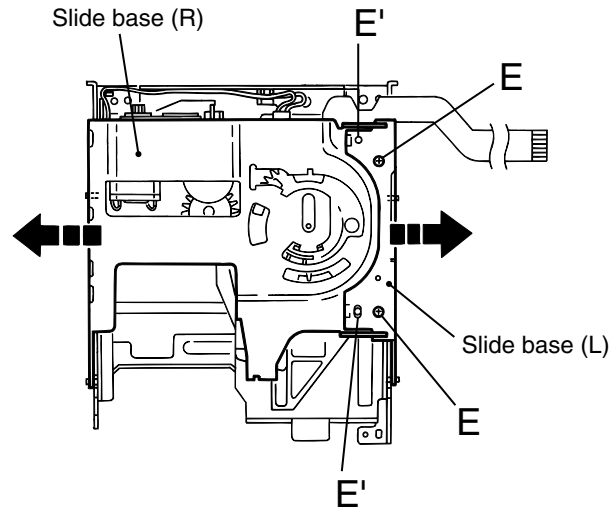

Fig.10
### ■Removing the slide base (L) / (R) (See Fig.10)
2. Remove the slide base (L) outward. (Release it from the joint bosses E.)
3. Remove the slide base (R) outward.